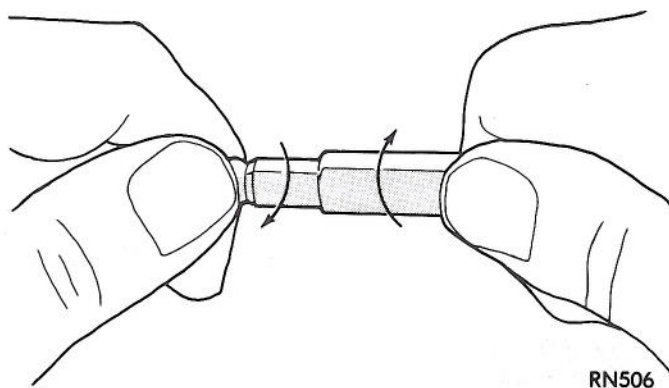

Fig. 10—Power Antenna Twist Connector
(1) Disconnect battery cable at battery negative post.
(2) Remove the right front fender splash shield fasteners and pull shield away from the wheel housing.
(3) Disconnect motor leads at the connector.
(4) Disconnect lead-in cable by twisting at connector (Fig. 10).
(5) Remove one screw attaching antenna to antenna brace.
(6) Remove cap nut on fender surface with tool C4227.
(7) Remove antenna from under fender.